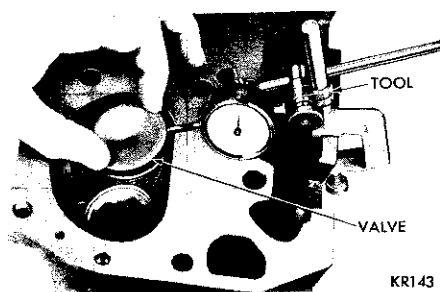

Fig. 10—Measuring Guide Wear Using Tool C-3339
(5) The special sleeve places the valve at the correct height for measuring with a dial indicator. Attach the dial indicator Tool C-3339 to the cylinder head and set it at a right angle to the valve stem being measured (Fig. 10).
(6) Move the valve to and from the indicator. The total dial indicator reading should not exceed .016 inch on the intake valves, and .018 inch on the exhaust valves. Ream the guides for new valves with oversize stems if the dial indicator reading is excessive or if the stems are scored or worn excessively.
(7) Service valves with oversize stems are available in .005, .015 and .030 inch oversizes. Reamers to accommodate the oversize valve stem are as follows: Reamer Tool C-3443 (.379 to .380 inch), Reamer Tool C-3430 (.389 to .390 inch), Reamer Tool C-3427 (.404 to .405 inch).
(8) Slowly turn the reamer by hand and clean the guide thoroughly before installing new valves.